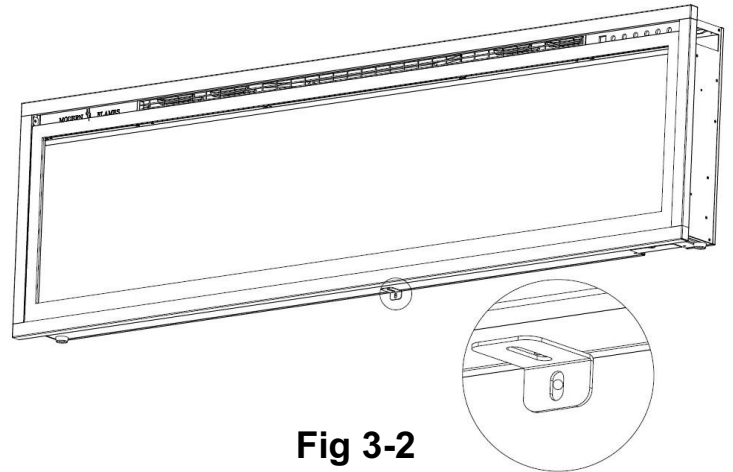

Fig 3-2
**B.** Using the screw previously removed, attach the L-bracket (O) (supplied) to the bottom of the fireplace box.(Fig 3-2).